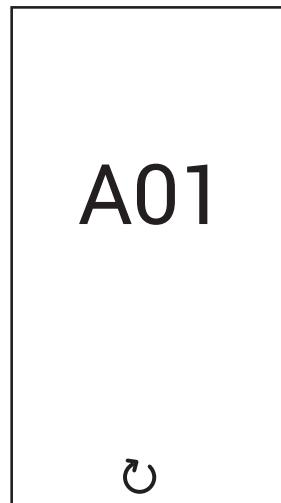

fig. 5
**A-type fault (fig. 5):** For this fault manual intervention is required by pressing the button  for about 2 seconds. Then confirm with the button .